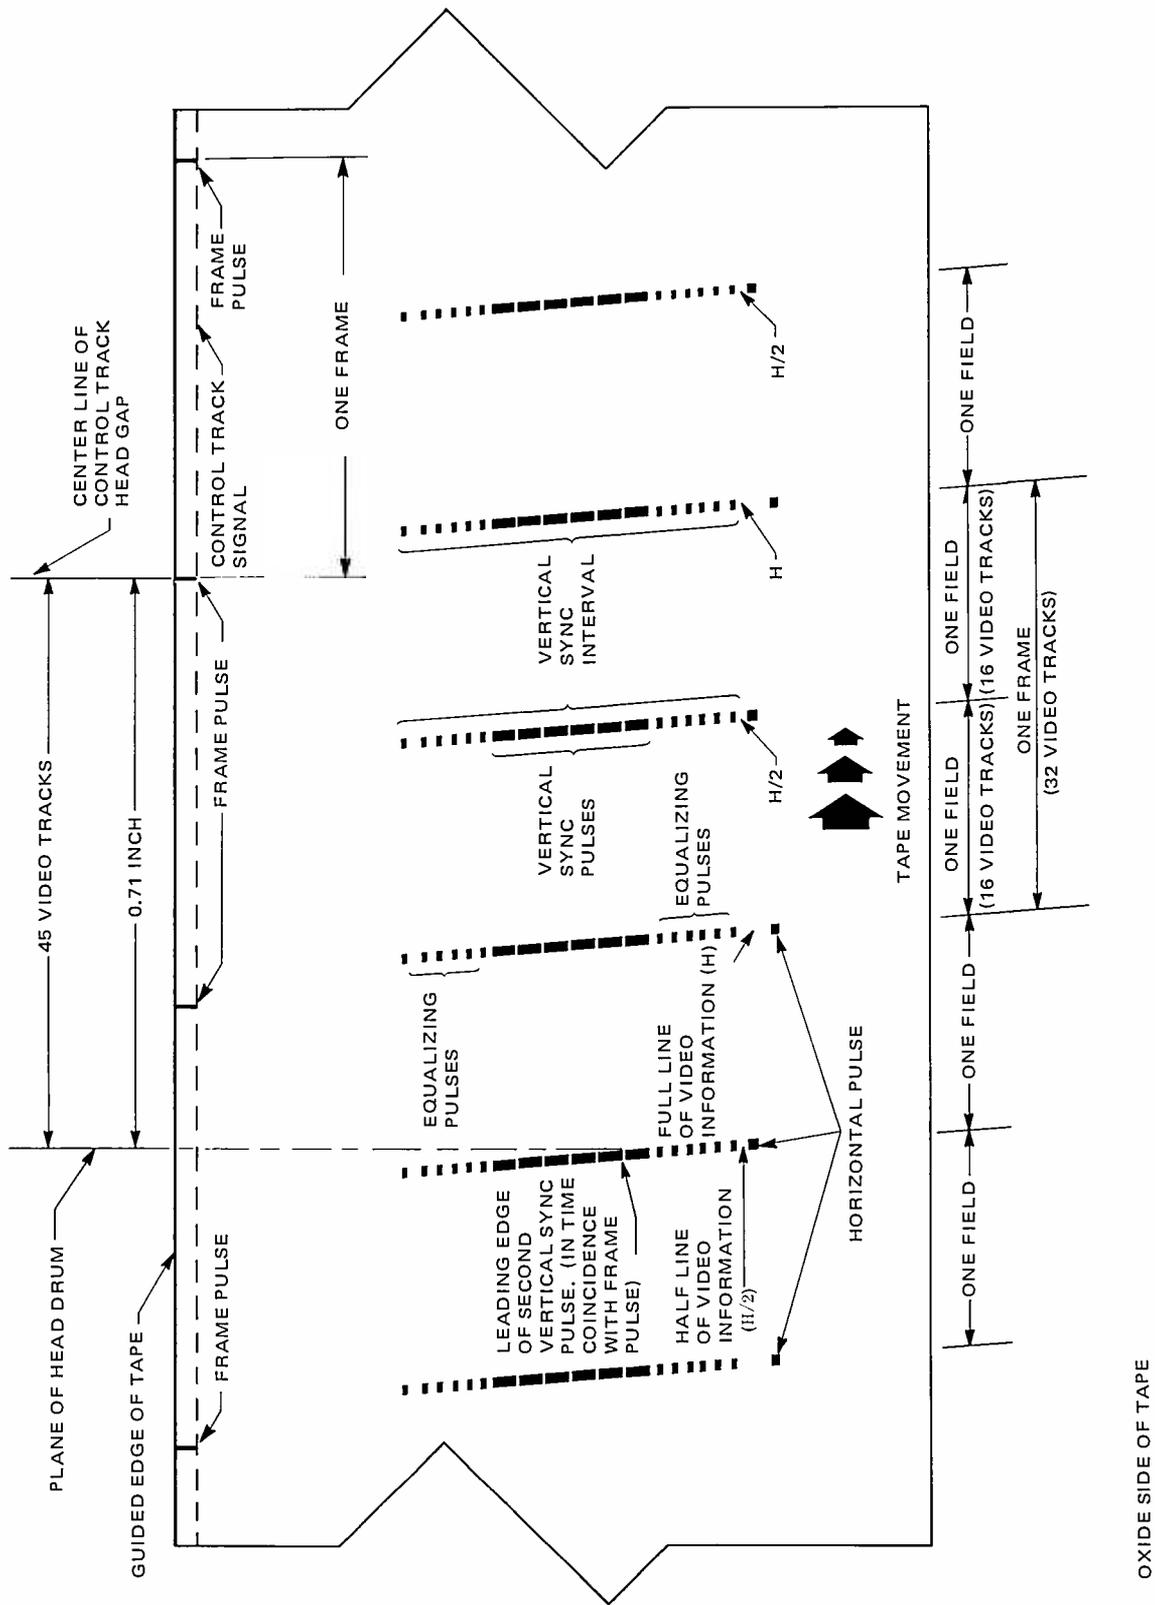

Figure 4-3. Video and Control Track Dimensions
4. Control-track head recording, video-head rotation and frame-location information (see Figure 4-3).